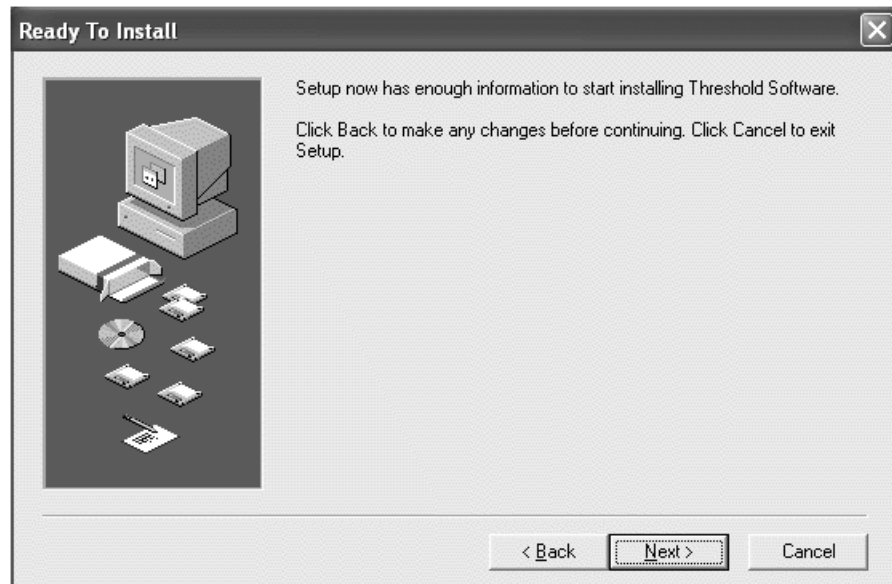

Figure E-6: Ready to Install Screen
16) The **Ready to Install** information window opens (Figure E-6).